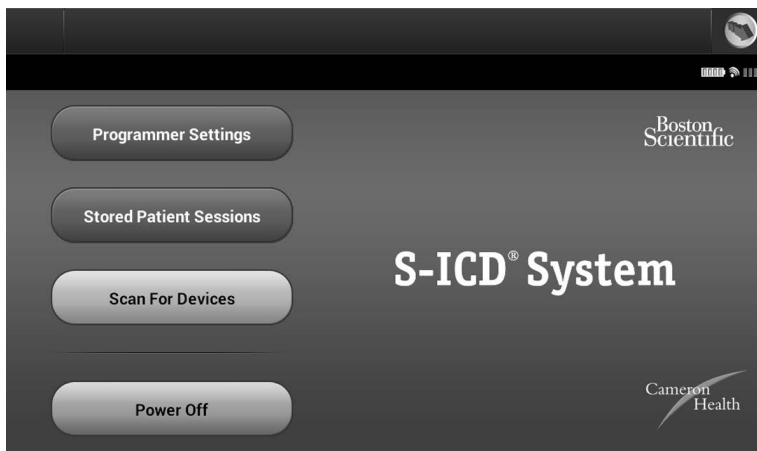
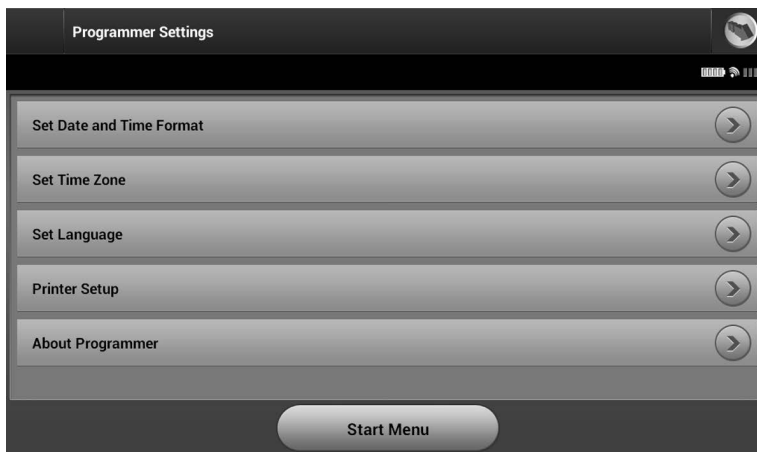
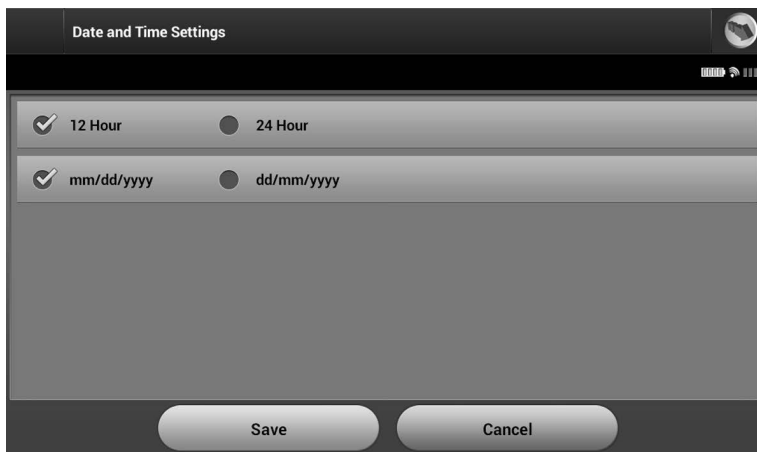

Figure 6: Startup screen
Figure 7: *Programmer Settings screen*
Figure 8: *Date and Time Settings screen*
1. Select the Programmer Settings button on the Startup screen (Figure 6) to display the Programmer Settings screen (Figure 7).
1. Select Set Date and Time Format on the Programmer Settings screen (Figure 7). The Date and Time Settings screen appears (Figure 8).